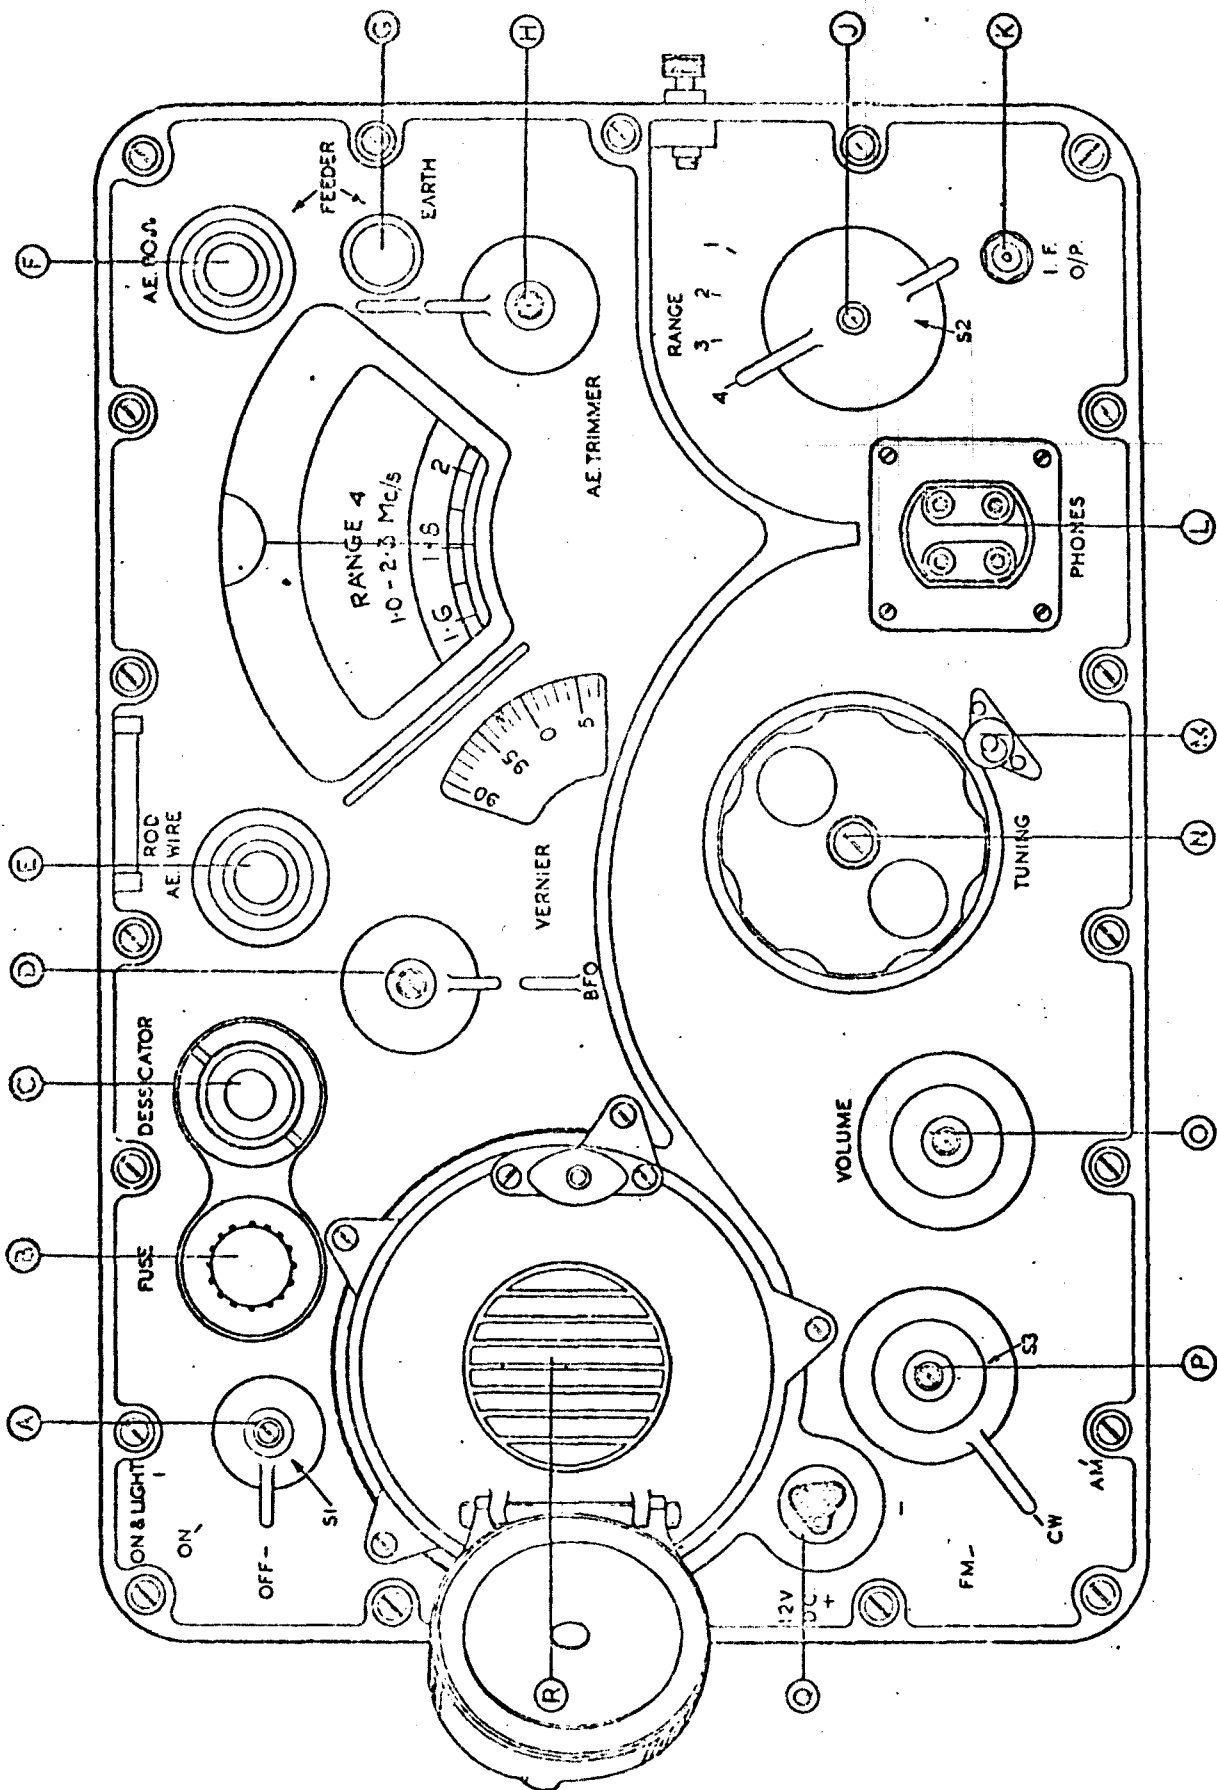
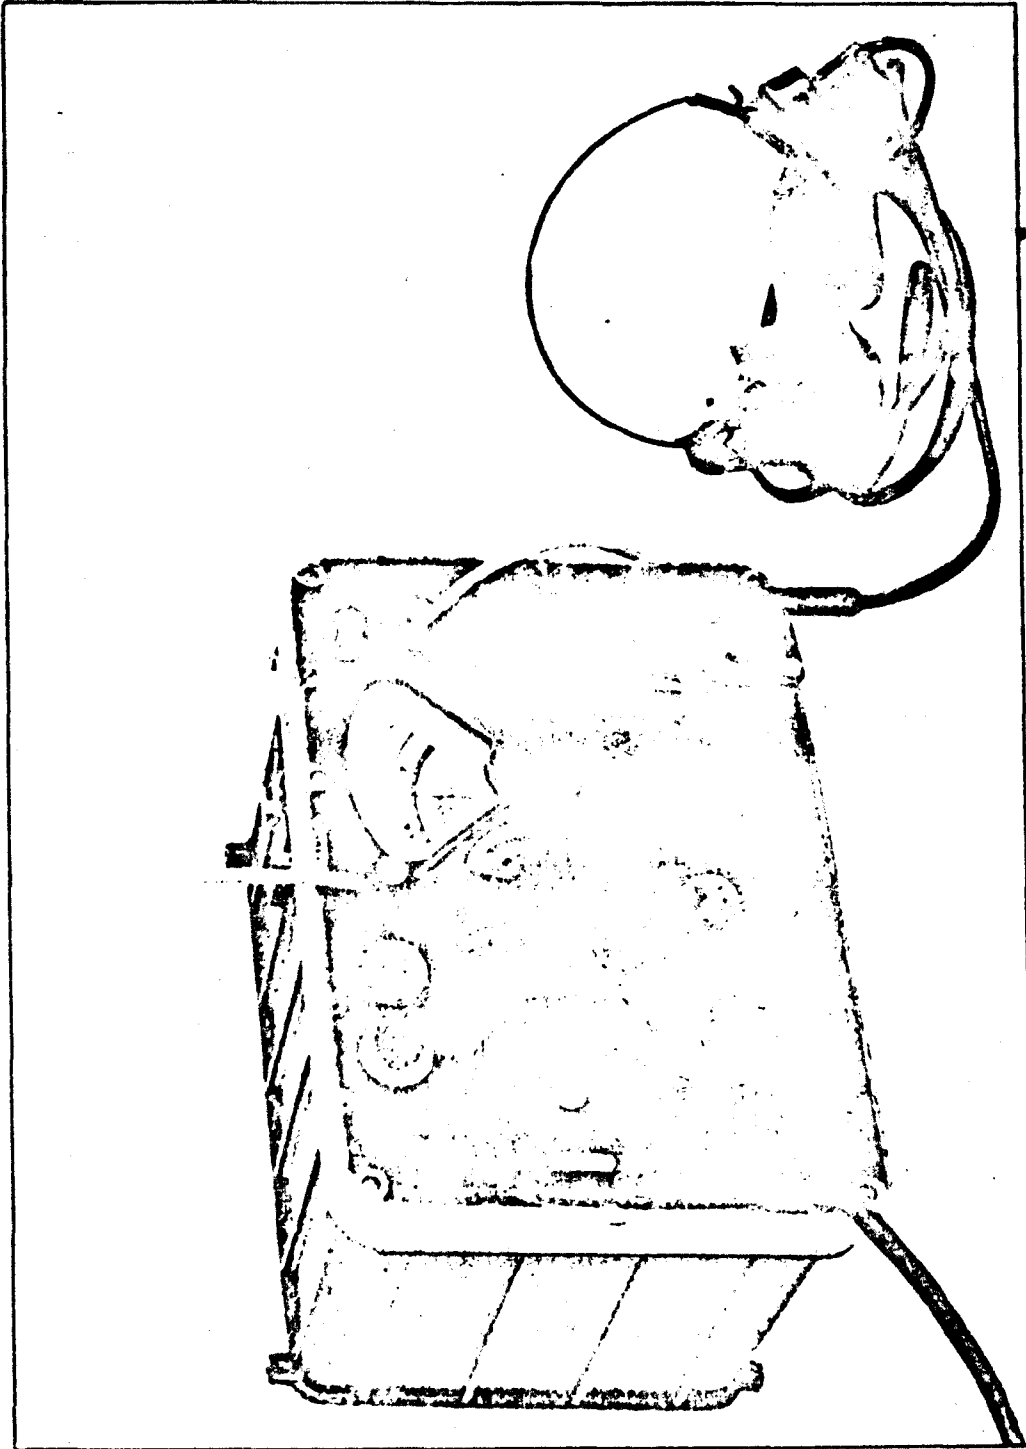

FIG. 3 - FRONT PANEL LAYOUT
FIG. 1 - R.209, Mk.2, GENERAL VIEW OF SET
10. Setting up (See Fig. 3)
- (2) Set the OFF/ON/OFF & LIGHT switch (S1) (A) to OFF.
- (3) Close the loudspeaker cover (R). Headphones should always be used in normal conditions, as the quality of the loudspeaker output will never be high in the conditions in which it is used in this set.
- (4) Insert phones plug into the PHONES socket (L).
- (5) The crash limiter unit when required is plugged into the 4-way PHONES socket (L), and the 2 pairs of headphones plugged into the sockets on the crash limiter unit. (See Fig.1)
- (6) Set the BFO tuning knob (D) into central position, i.e. with the knob pointer opposite BFO indicator on front panel.
- (7) Insert the 12 volt 3-point socket into the D.C. power input plug (Q).
11. To operate (See Fig. 3)